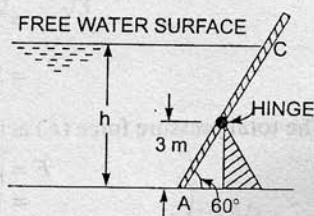

Fig. 3.24
**Problem 3.19** A gate supporting water is shown in Fig. 3.24. Find the height  $h$  of the water so that the gate tips about the hinge. Take the width of the gate as unity.
$$\left[ \text{From } \Delta AKH, \text{ Fig. 3.24 (b)} \quad AK = AH \sin \theta = AH \sin 45^\circ \therefore AH = \frac{AK}{\sin 45^\circ} \right]$$